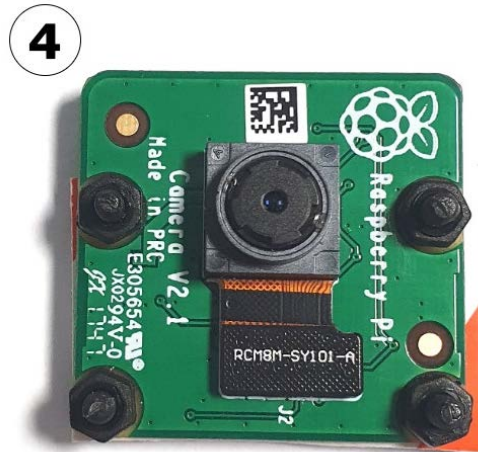

Figure 13.5 – Bolting the camera to the cardboard
4. Use a couple of M2 bolts and nuts to fasten the camera onto the cardboard carrier, as shown in *Figure 13.5*. Note that the bolt-facing side is at the back—this is so any protruding threads won't interfere with the hook and loop: